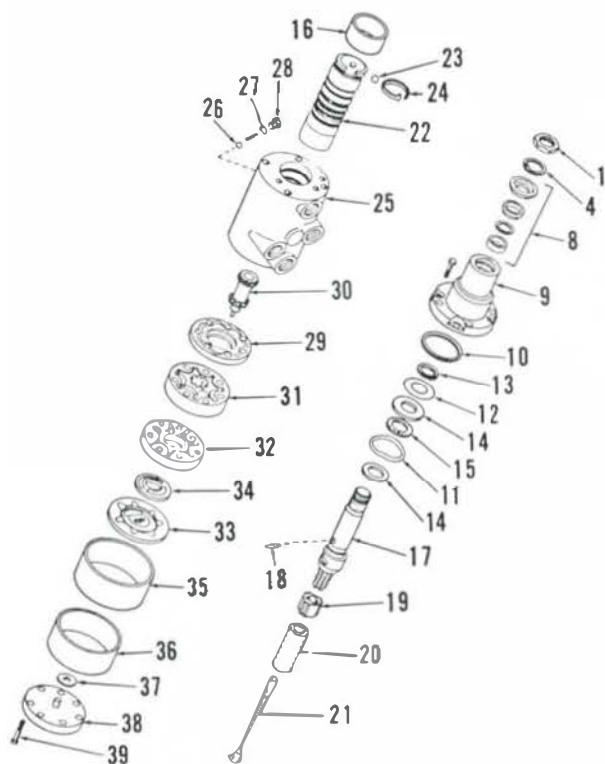

Fig. 27—Exploded view of steering control valve assembly (hydrostatic hand pump) used on standard MF245 models.
**23. OVERHAUL.** All MF245 models except Orchard are equipped with the hydrostatic hand pump shown exploded in Fig. 27. The valve spool (22) and body (25) are available only as a matched set.
Before reassembling, wash all parts in clean solvent and air dry. All parts, unless otherwise indicated, are installed dry. Install recirculating ball (26—Fig. 27) and plug (28) with new "O" ring (27) in valve body and tighten plug to a torque of 14-19 N · m (10-14 ft.-lbs.). Clamp fitting (installed in valve body port) in a vise so top end of valve body is facing upward. Install thrust washer (14), thrust bearing (15), second thrust washer (14) and snap ring (13) on input shaft (17).